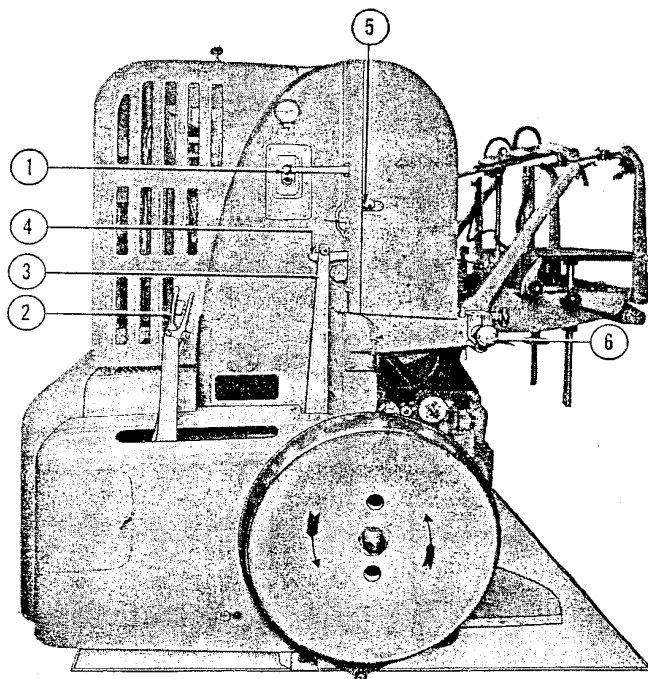

Figure 10—Operating Controls
**2. OPERATING CONTROLS.** (See figure 10.)—The following information identifies and explains the function of all controls used during press operation.
a. **START-STOP PUSH BUTTONS.**—The “START-STOP” push buttons (1) control the starting and stopping of the press motor.
b. **BELT-TIGHTENER LEVER.**—The belt-tightener lever (2) is used during press operation to start and stop the press while the motor continues to operate. When the lever is released (pulled to the left) the press drive belt is disengaged from the pulley and braking is applied to the press flywheel.
c. **BELT-TIGHTENER TRIP AND AUTO-STOP LEVERS.**—The belt-tightener trip and auto-stop levers (3) and (4) automatically release the belt-tightener lever when sheets are not being fed and automatic stop control knob (5) has been turned to its up position. After tripping occurs, the belt-tightener trip and auto-stop levers are automatically re-engaged.
d. **FEEDER CONTROL AIR VALVE HANDLE.**—The feeder control air valve handle (6) controls the operation of the feeder air valve which supplies suction to the separator shoes. When handle is pushed in, suction is supplied to shoes for sheet pick-up.